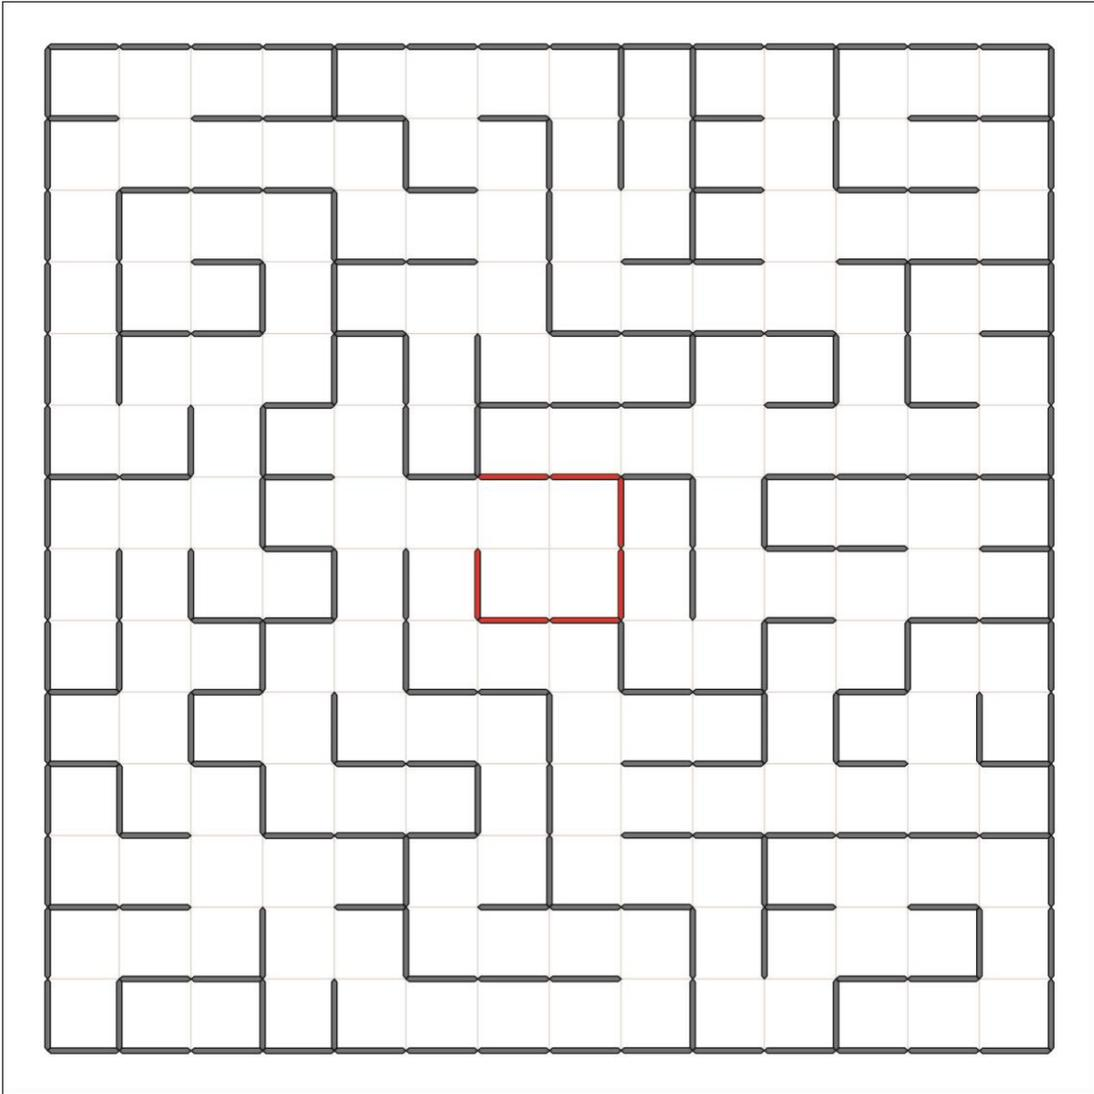

Figure 1: Maze Example
1. The maze shall comprise **14 x 14 multiples** of a **16 cm x 16 cm unit square as shown in Figure 1**. The walls constituting the maze shall be **5 cm high and 1.2 cm thick**. Passageways between the walls shall be **14.8 cm wide**. The outside wall shall enclose the entire maze.